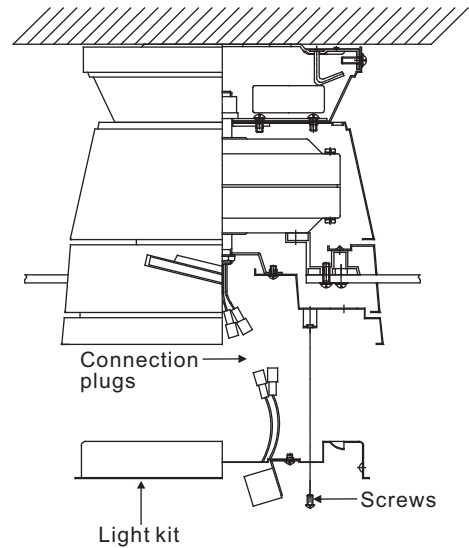

Figure 13
Step 2. Raise and hold the light kit close to the mounting plate and proceed to do the wire connections. Connect the white wire connectors from the light kit and fan, follow the same procedure with the black wire connectors. (Fig. 13)
Step 3. Tuck connections neatly into mounting plate, Place the light plate key holes over the 2 screws previously loosened from the mounting ring, turn light kit until it locks in place at the narrow section of the key holes. secure by tightening the 2 screws previously loosened and the one previously removed. (Fig. 13)